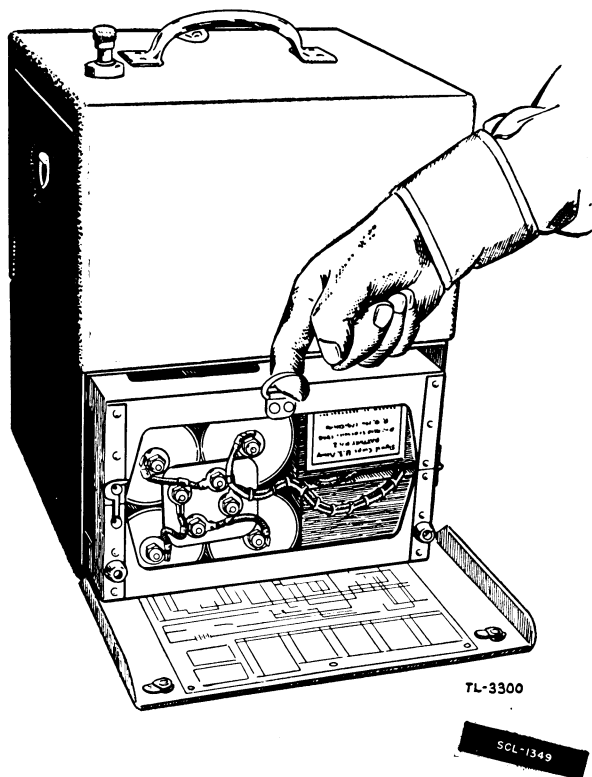

Figure 36. Frequency Meter BC-221-(2), removal of battery tray from frequency meter using finger ring at top.
a. LOCATION OF BATTERY TRAY. At the rear of the cabinet, two small catches lock the door of the battery compartment. To release them, revolve them a half turn (in a counterclockwise direction) with a coin or screw driver. The battery tray is inside this compartment. (See fig. 36.) It can be pulled out by the ring at the top without detaching the cable. There is no need to disconnect the cable from the tray or from the meter during the battery assembly.